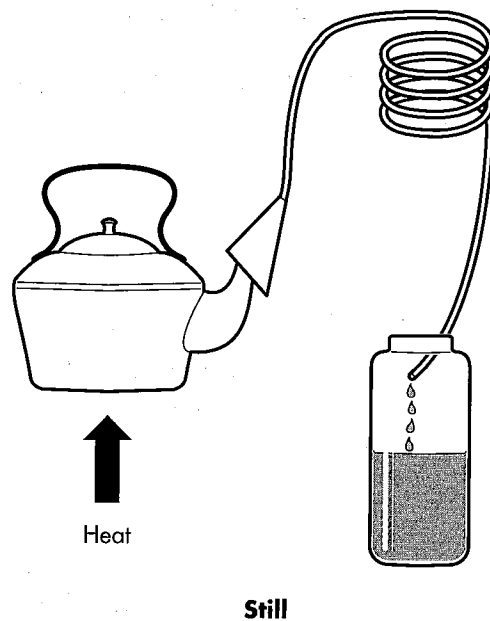

Figure 10: How to prepare distilled water
- top up with distilled water (rain water may be used but distilled water is preferable). Small quantities of distilled water can be produced by using the simple method shown in Figure 10.